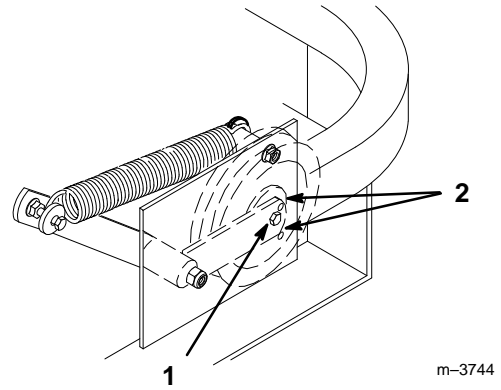

Figure 48
8. Check belt tension. The center bolt of spring loaded idler must be between the two alignment holes in left support plate (Fig 48).
10. Check belt tension again. The center bolt of spring loaded idler must be between the two alignment holes in left support plate (Fig 48). Adjust, if necessary, and tighten all hardware securely.